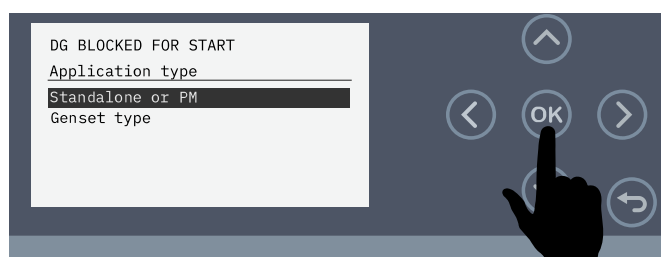

Figure 47. Select Standalone Or PM
5. Make sure **Standalone or PM** is highlighted (Figure 47), then press the OK button.